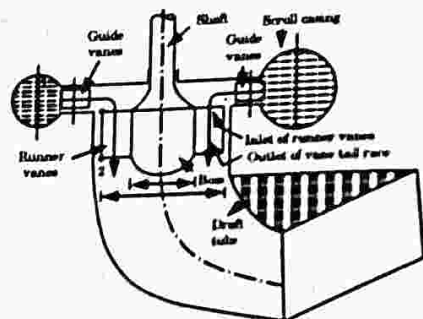

Fig. 5.16.2. Main components of Kaplan turbine.
1. Fig. 5.16.2 shows all main parts of a Kaplan turbine. The water from penstock enters the scroll casing and then moves to the guide vanes.